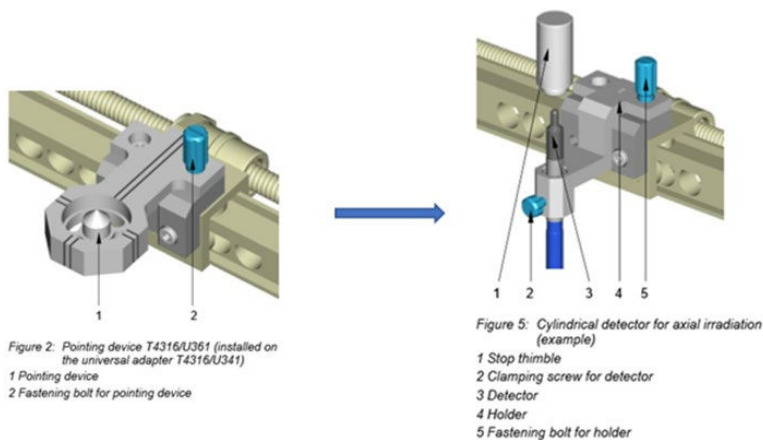

Figure 1-12. PTW 60018 Diode
19. Ready to use PTW water phantom for Beam Data acquisition. Replace the pointing device with the PTW 60018 diode for PDD and OCR measurements (see Figure 1-12). Move the water phantom into the treatment chamber to match the recorded table position from **step 13**.